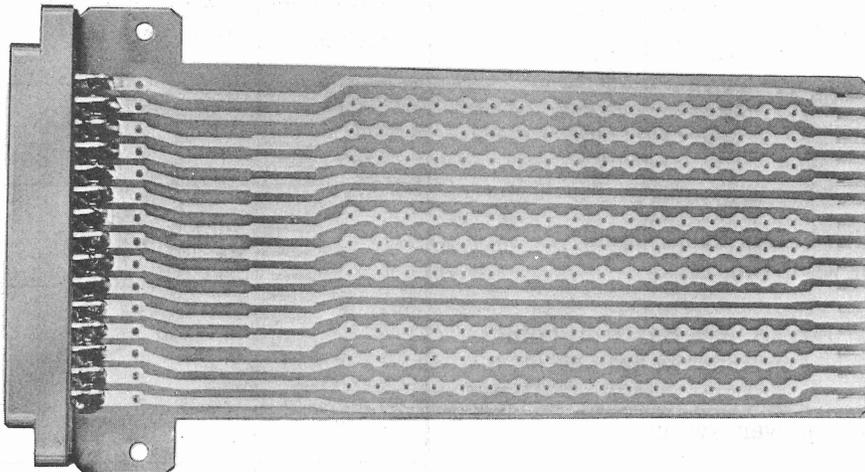

Fig. 8 - TP 172450 Extension Card
**3.06** The extension card is a blank plug-in circuit card. A circuit card may be plugged into the extension card to make adjustments or check out circuit elements. (See Fig. 8.)